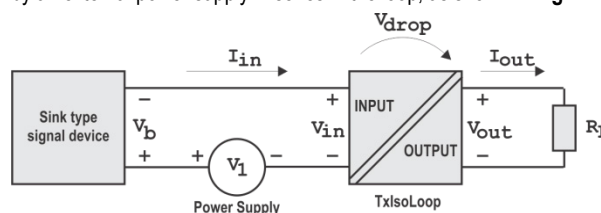

Fig. 2 – TxIsoLoop connections with sink type devices
2. With sink type devices (2-wire transmitters), the energy is provided by an external power supply in series in the loop, as shown in Fig. 2.